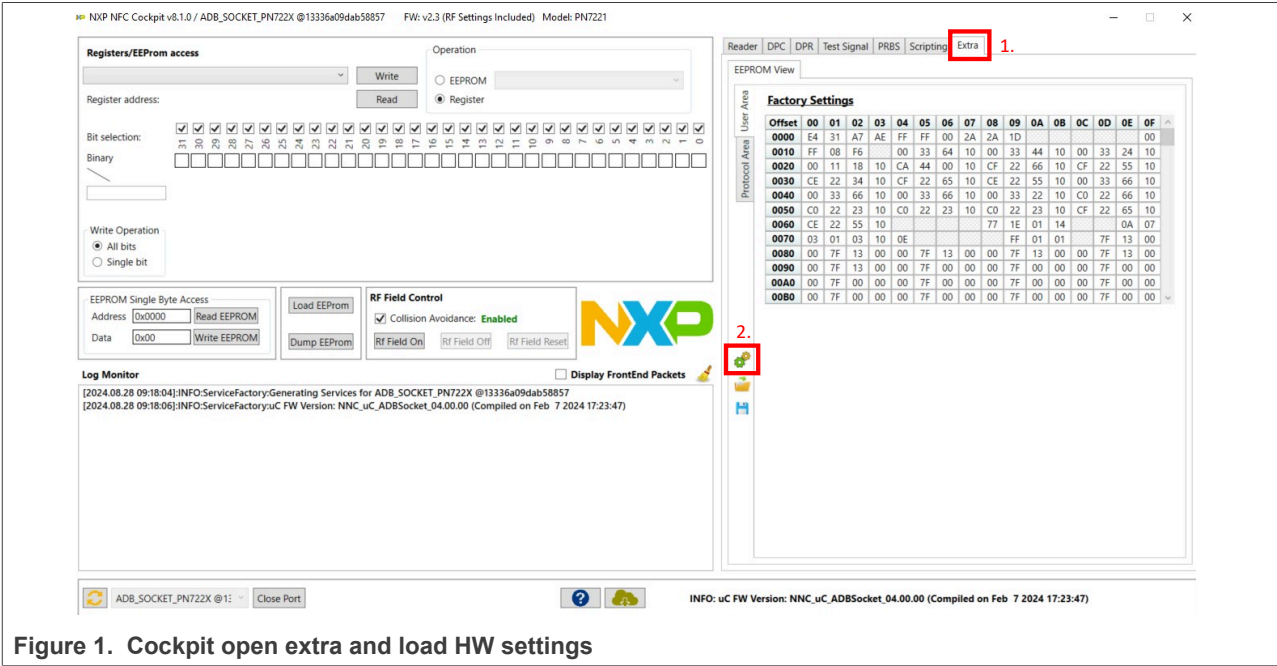

Figure 1. Cockpit open extra and load HW settings
- 1. Open the NFC Cockpit and click "1." and then "2." in Figure 1 .